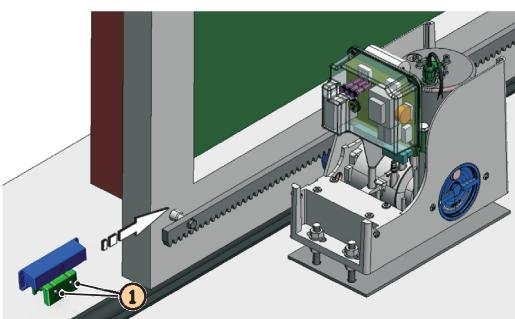

Fig. 18
- ④ Slide the magnet nearest to the operator on the rack, in the direction of the motor - see figure 18. As soon as the LED on the board, referring to the travel limit stop, goes OFF, take the magnet forward by another 10 mm and fasten it with the appropriate screws (Fig. 18 ref. ①).
- ⑤ Do likewise for the other magnet.
⑥ Take the gate to about halfway of its travel and relock the system (see paragraph 9).